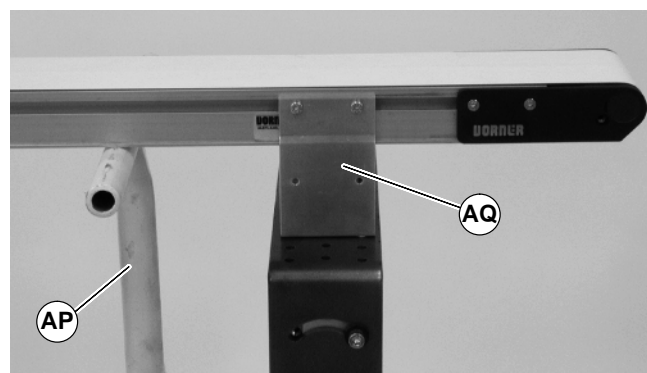

Figure 21
8. Place temporary support stands (AP of Figure 21) at both ends of the conveyor.
9. Remove mounting brackets (AQ of Figure 21) from one side of conveyor. (Reverse steps 3 & 4 of “Mounting Brackets” section, page 6.)